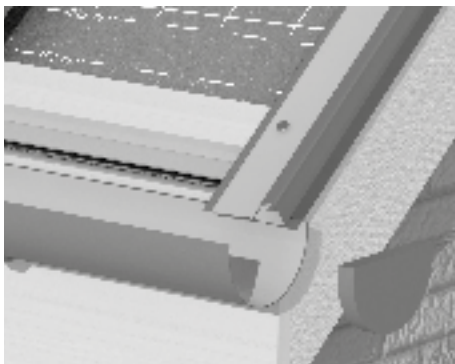

Fig. 19 – Nail each length of trim to batten
- 3 Position the first length to overhang at the eaves into the gutter, by the required amount, and remove part of the down leg to allow fitting of the gutter (Fig. 19).